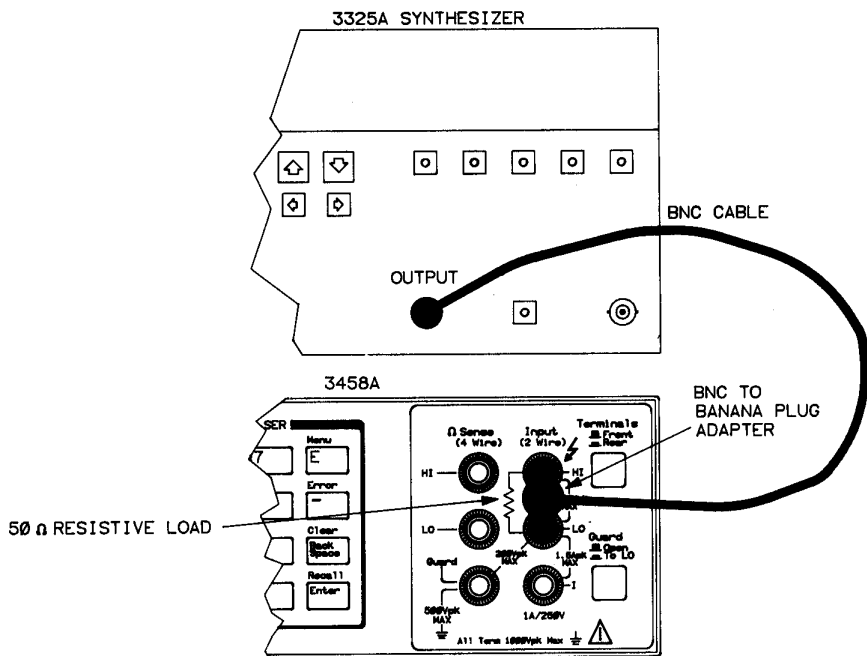

Figure 3-5 AC adjustment connections
- 10 Disconnect the thermal converter and connect the synthesizer, 50 Ω resistive load, and multimeter as shown in Figure 3-5.